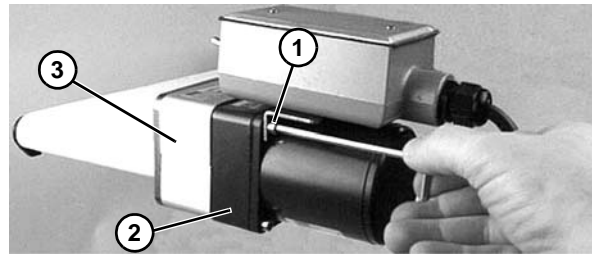

Figure 48
3. Remove four (4) screws (Figure 48, item 1). Remove gearmotor (Figure 48, item 2) and cover (Figure 48, item 3).